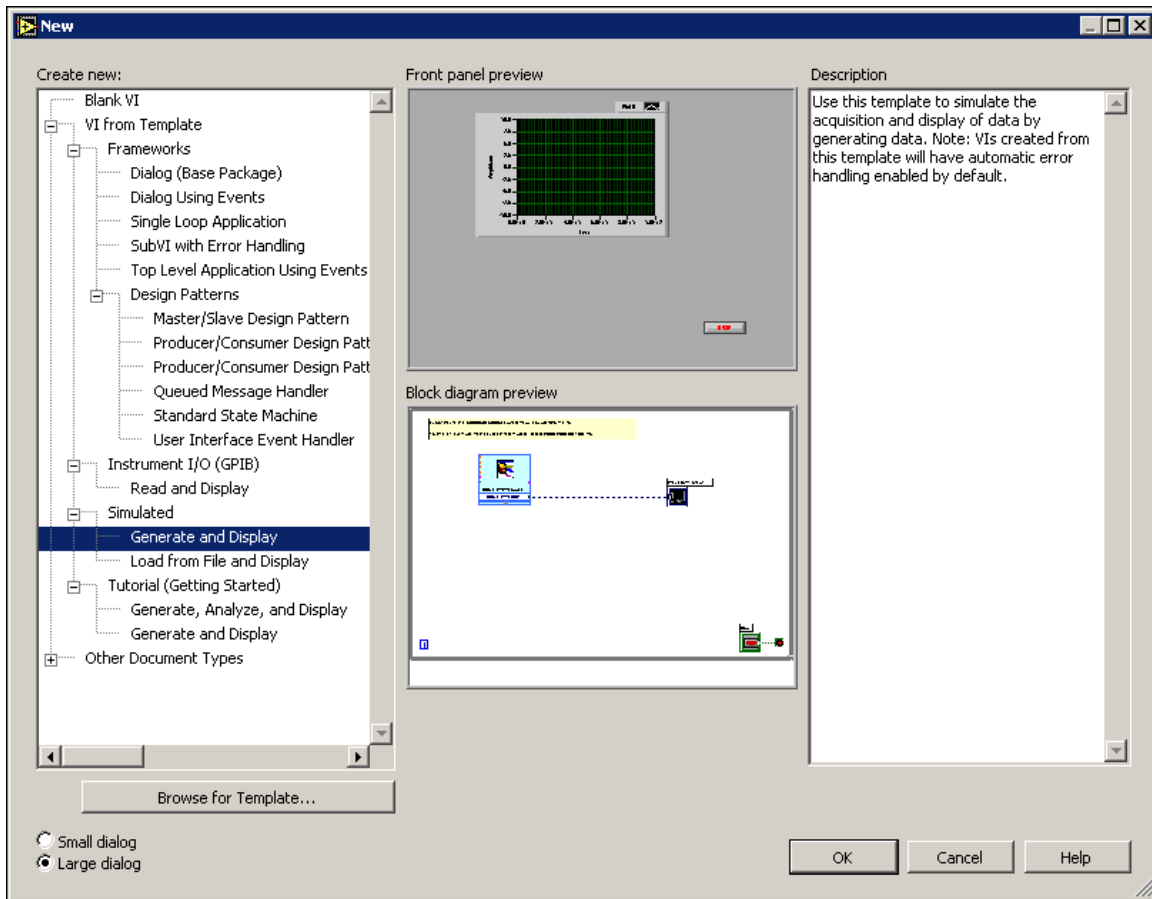

Figure 1.19
3. Select VI from `Template`»`Tutorial (Getting Started)`»`Generate and Display` in the `Create new` list. This template VI generates and displays a signal. Notice that previews of the template VI appear in the `Front panel preview` and the `Block diagram preview` sections. The Figure 1.19 shows the `New` dialog box and the `Generate and Display` template VI.